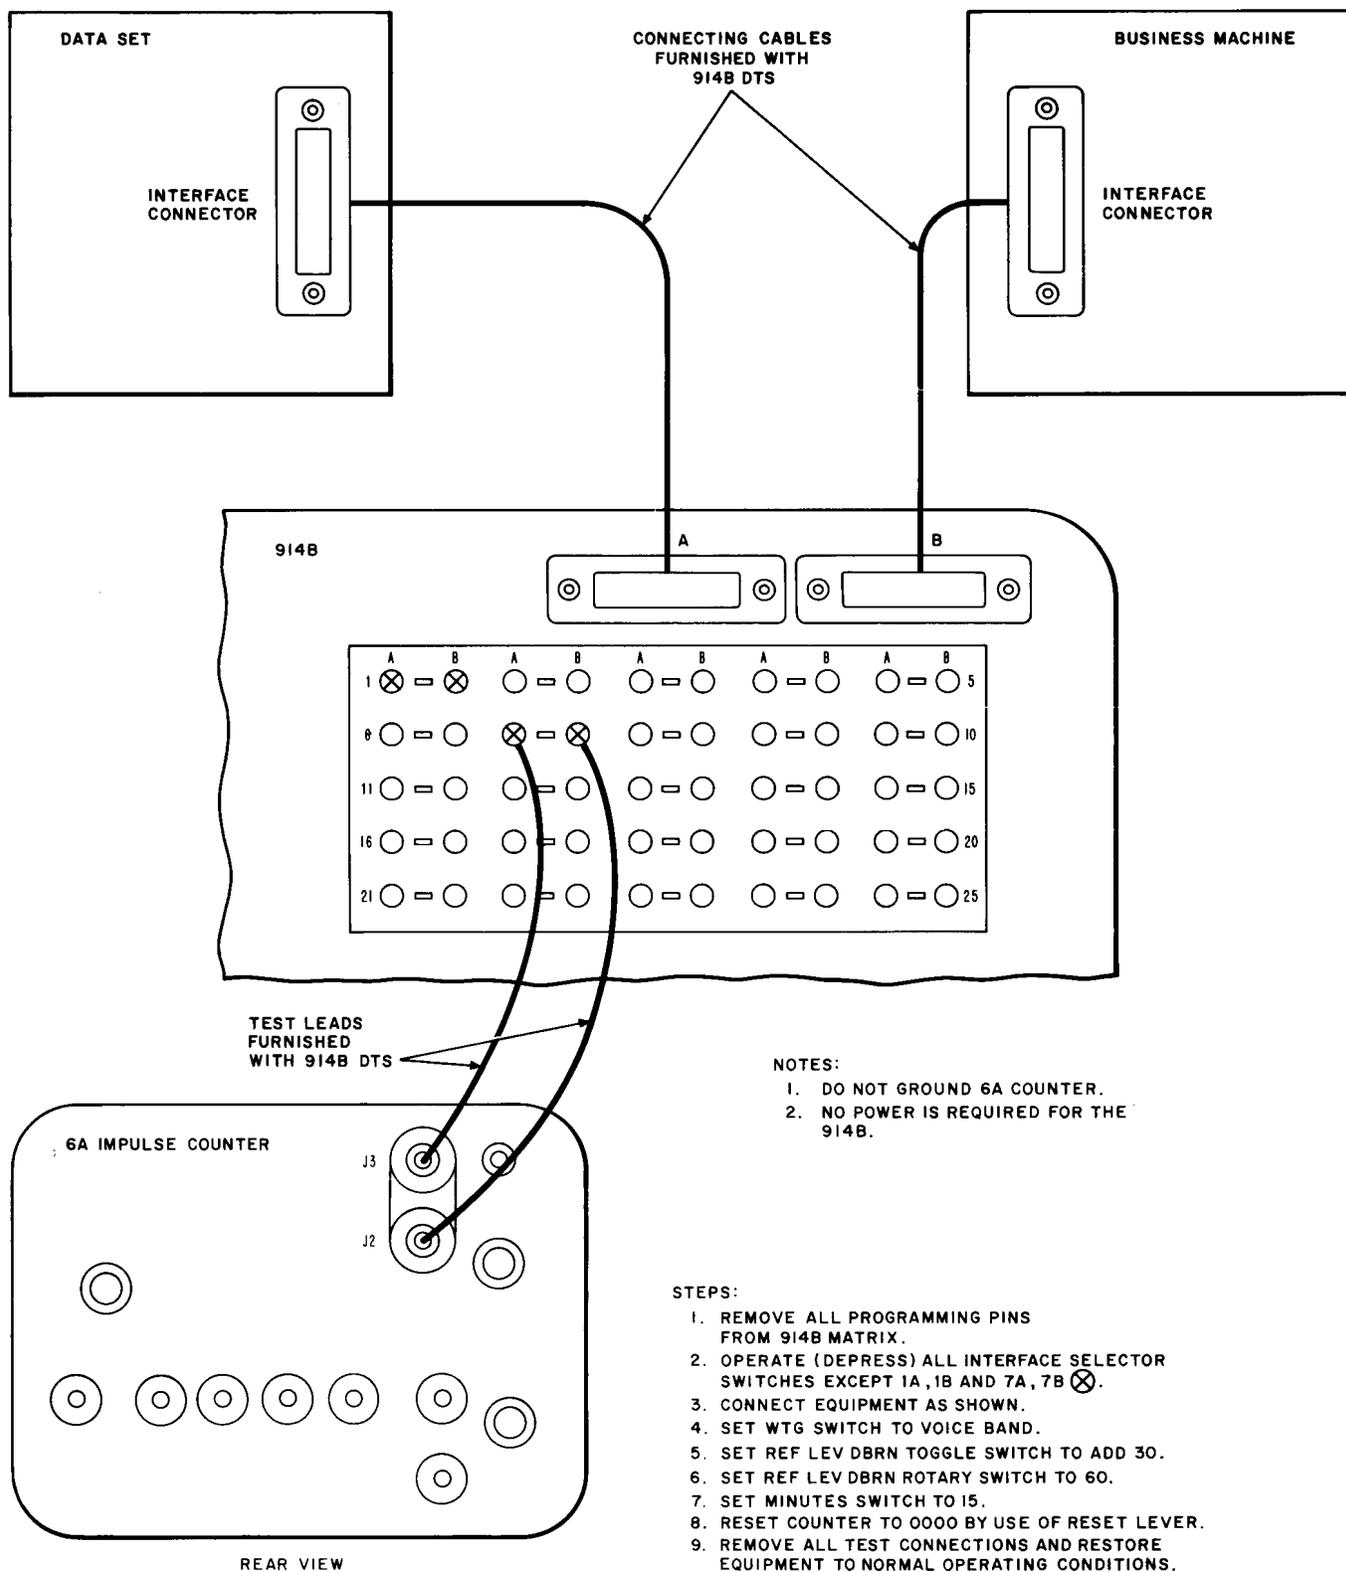

Fig. 2—Power Ground Noise Test Using 6A Impulse Counter and 914B Data Test Set
6.04 The 6A impulse counter is connected and the test is performed as shown in Fig. 2. If any errors are counted in the 15-minute test period, the grounds must be bonded together according to local instructions. General description, calibration, and operating procedures for the 6A impulse counter are contained in the section entitled J94006A (6A) Impulse Counter, Description, Operation, and Maintenance (103-620-100).